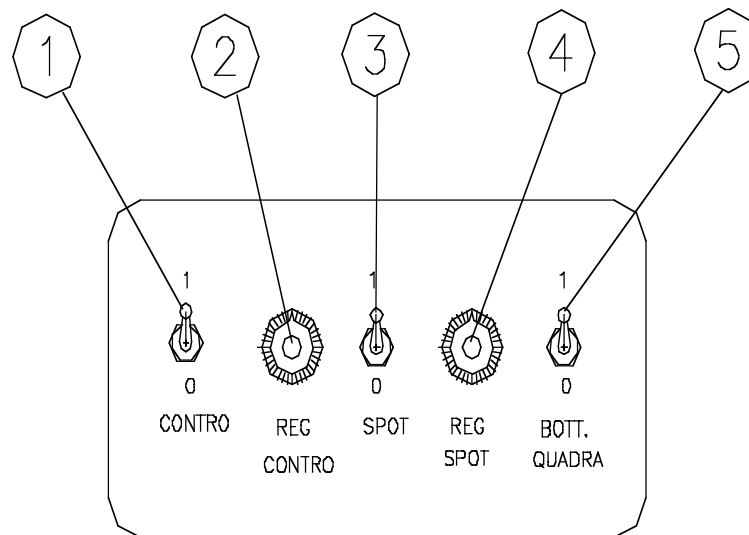

FIG. 12
- d) By means of switch 5 Fig. 12, enable the SQUARE BOTTLE function.
Move the device 19 into the previous position and disable the SQUARE BOTTLE function by turning the switch 5 Fig. 12.